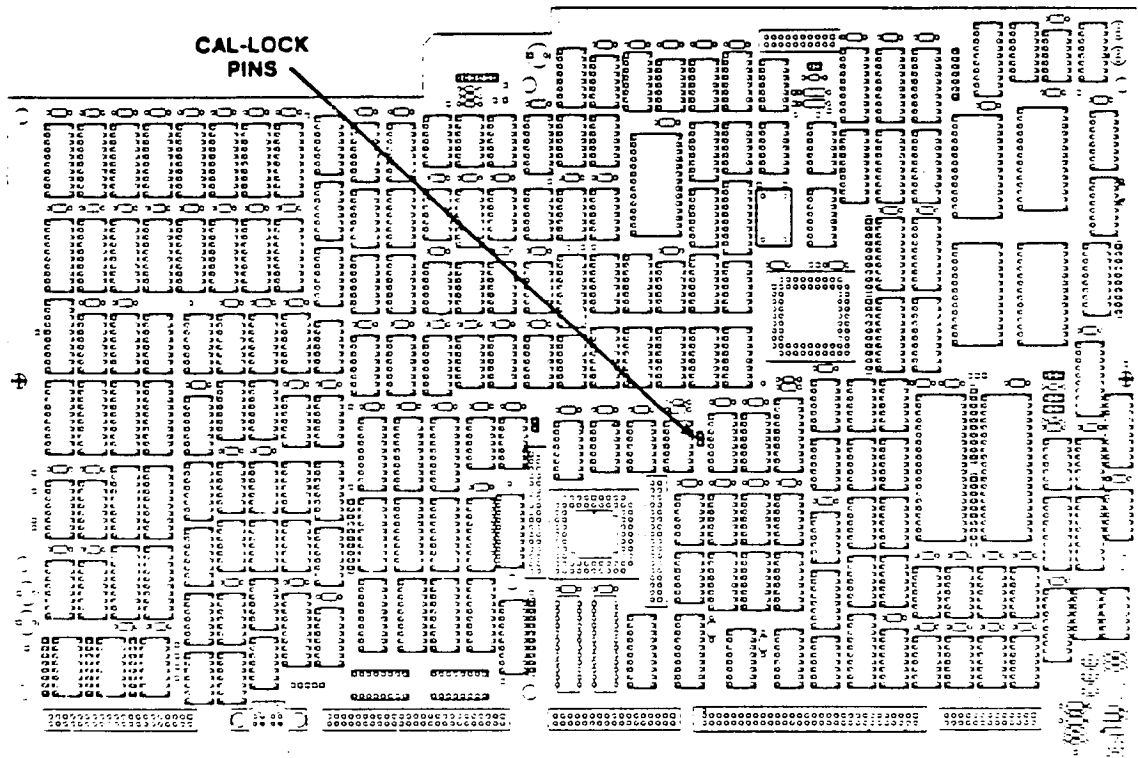

Figure 3. - 11401/11402 Time base ckt bd A6
- ( ) 1. 11401 and 11402, remove the bottom cover of the mainframe and install a Term Conn Link (shorting strap) on the CAL-LOCK terminals located on the Time Base circuit board A6. Refer to Figure 3, for pin locations.